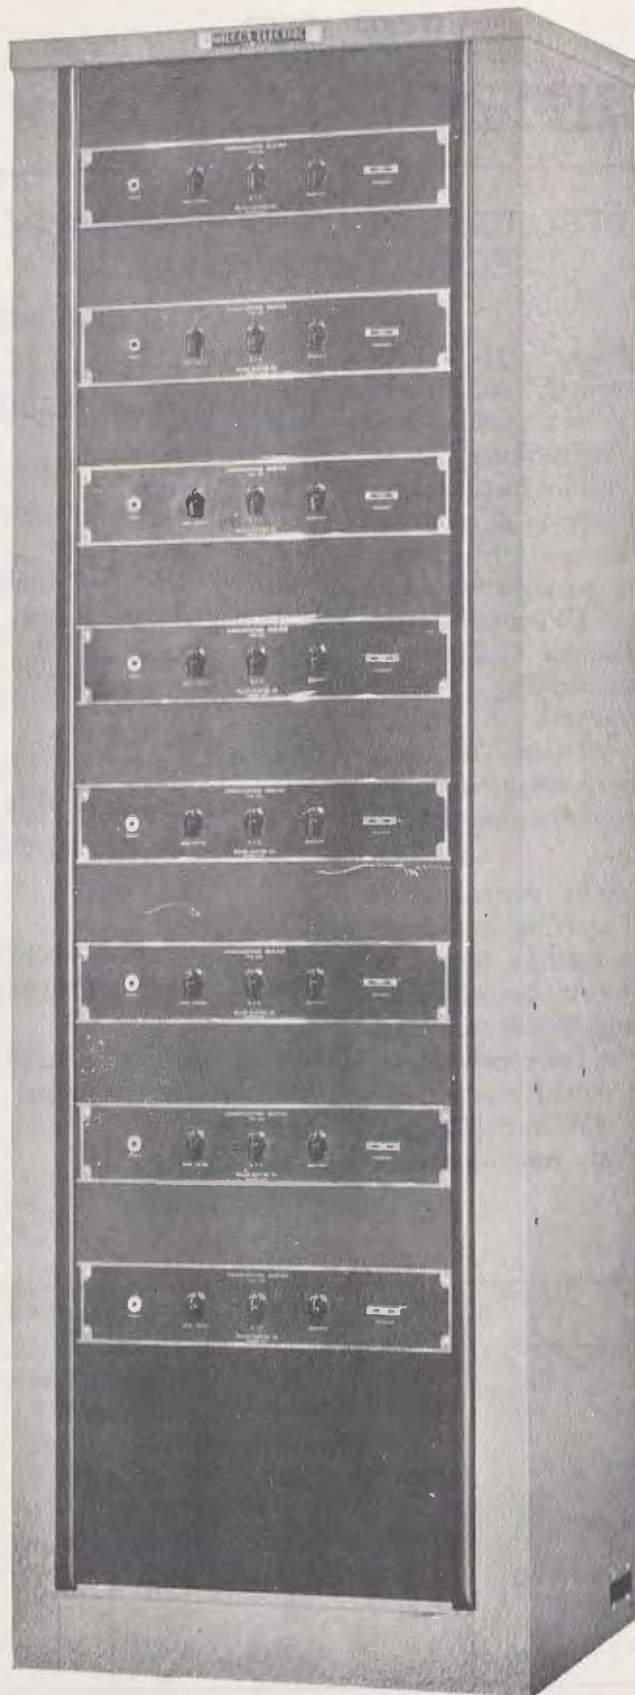

Figure 2. Receiver bay type 113A, front view.
a. Receiver bay (Wilcox Electric type 113A) consists of eight fixed-frequency communications receivers mounted in a ventilated cabinet type relay rack (fig. 2). The receiver bay is designed for use in ground station installations for point-to-point communications or for the reception of signals from aircraft to ground. Two types of receivers may be used with the receiver bay: Radio receiver (Wilcox Electric type CW3) for the reception of continuous-wave (c-w) signal, or radio receiver (Wilcox Electric type F3) for the reception of amplitude-modulated (a-m) voice signals. The eight receivers included with the receiver bay may consist of either type or a combination of both types.